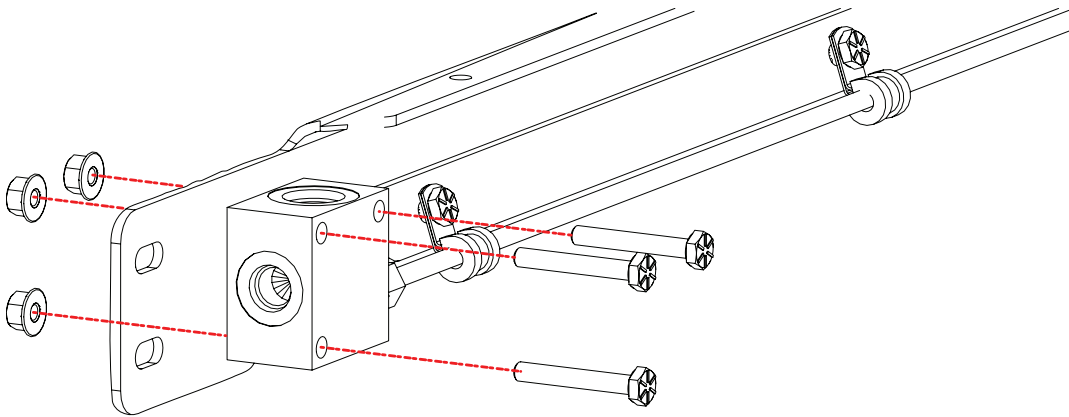

Figure 18: Install the three bolts and nuts that secure the PRD block to the rail.
18. Attach the replacement PRD to the rail using the original (3) bolts and nuts (Figure 18).